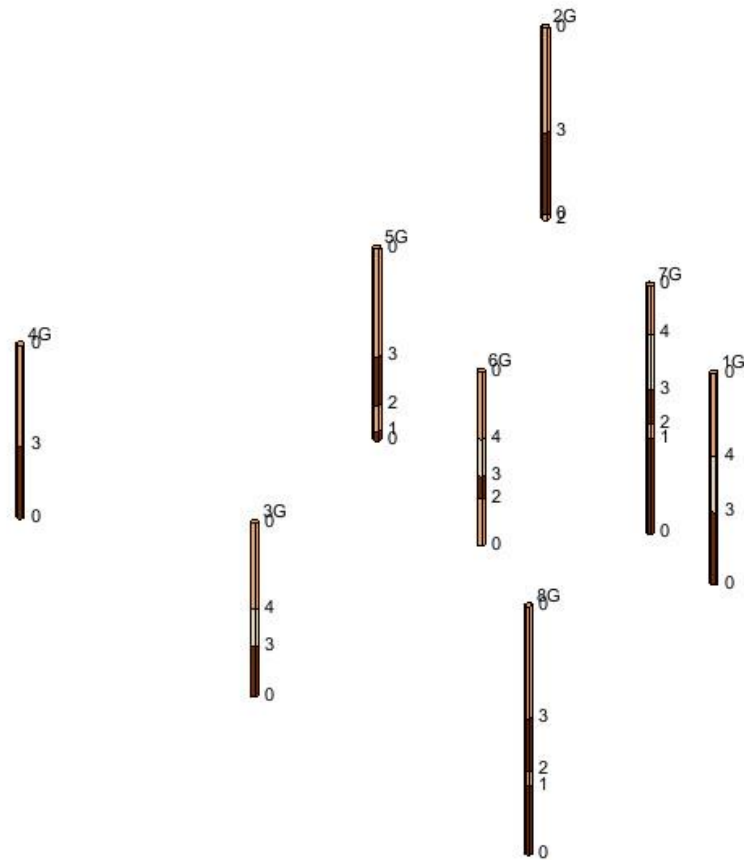

Figure 8 Contacts for Horizon 5
2. Select the top contact on each borehole as shown in Figure 8.